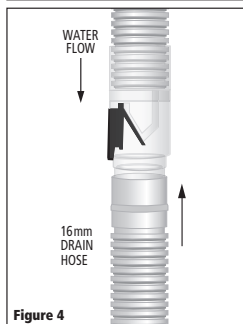

Figure 4
5. Insert bottom end of Trap (Narrow End) into top of lower drain hose (**Figures 4 & 5**).